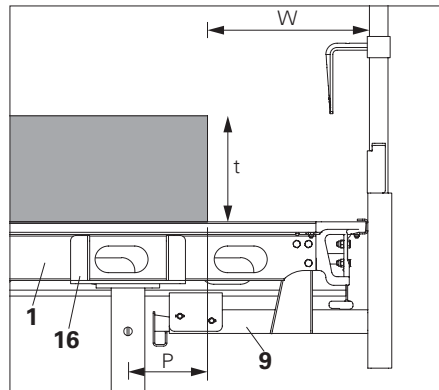
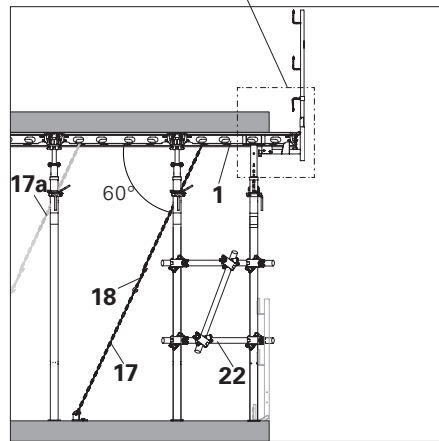
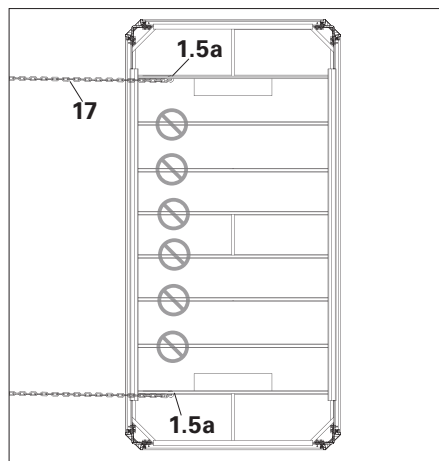
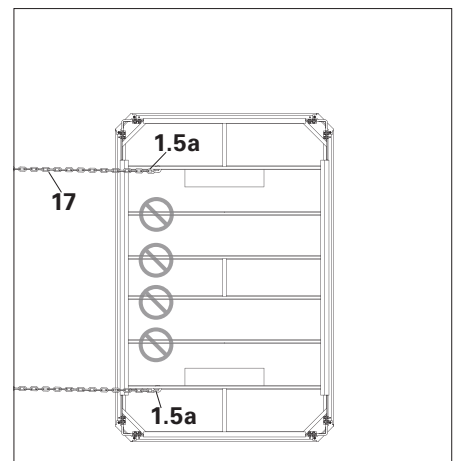

Fig. A10.05a
Fig. A10.05
Fig. A10.06
Fig. A10.07
Cantilevers are secured against toppling using anchor chain 3.0 kN (17). Additional chain bracings (17a) must be installed for transfer of horizontal loads due to open slab edges. Project specific planning is to be taken in to account for the number of additional chains required. (Fig. A10.05)
Plan the projection of the slab P (from the prop center to the slab edge) and the width of the working area W in accordance with (Fig A10.05a) and (Table A10.01)
Plan the projection of the slab P (from the prop center to the slab edge) and the width of the working area W in accordance with (Fig A10.05a) and (Table A10.02)
1. Install the Panel ADP (1) along with Guardrail holder ADG (9). (Fig. A10.05a)
2. Attach Crosshead ADC (16) with prop to support the Panel ADP (1).
3. Secure the cantilever using anchor chain 3.0 kN (17). (Fig. A10.05)
4. Install additional Z-bracings (22) for stability of props at periphery. e.g. bracings using pipes and couplers. (Fig. A10.05)
Use two no. of chains per panel as shown in illustration. (Fig. A10.06 + Fig. A10.07)
Do not attach the anchor chain 3.0 kN (17) on any place other than the first slot (1.5a) provided on the outermost cross strut C of the panel. (Fig. A10.05a), (Fig. A10.06), and (Fig. A10.07) .